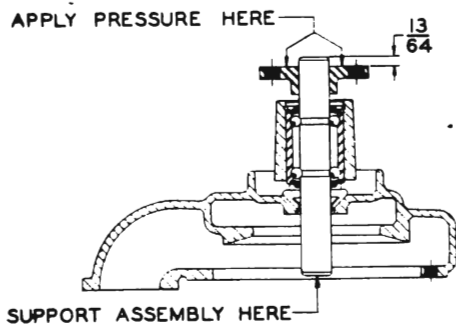

Fig. 6-45. Installing Fan Hub
3. Replace the fan hub by supporting above assembly of pump body and shaft at impeller end of shaft as shown. Leaving pump body free to float, press fan hub onto shaft to dimension shown. See Fig. 6-45.